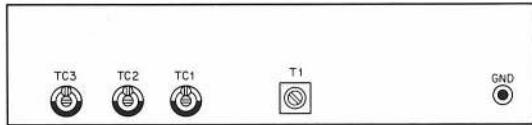
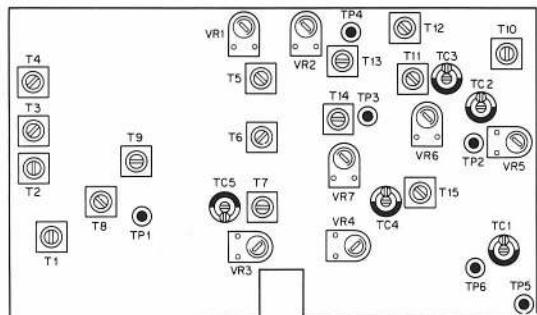
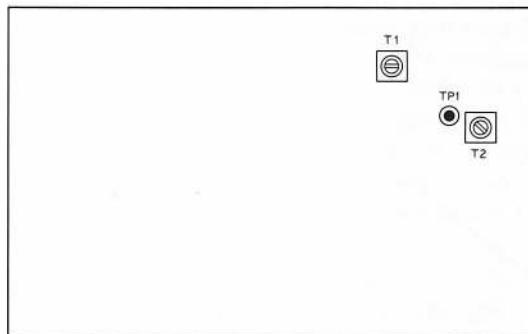

Fig. 21 CAR unit
Fig. 24 IF unit
Fig. 25 RF unit
- 1) Connect RF VTVM to TP5 in IF unit (X48-1150-00) and adjust oscillation coil T1 in CAR-1 unit (X50-1310-00) until the meter reads 50mV (refer to Fig. 21). (refer to Fig. 24 IF unit)
- 2) Adjust T1 to T7 in IF unit (X48-1150-00) and T2 in RF unit (X44-1150-00) until S meter reads maximum value (refer to Fig. 24 and Fig. 25).
- 2) Turn the RF GAIN knob fully counterclockwise and adjust VR3 and TC5 in IF unit (X48-1150-00) alternately until the output becomes minimum (refer to **Fig. 24**).
- 1) After receiving marker signal and turning ON NB switch, adjust T8 and T9 until the terminal voltage at TP1 on IF unit (X48-1150-00) becomes minimum (refer to **Fig. 24**).
- 1) After adjusting each section until sensitivity becomes maximum, adjust VR1 in IF unit (X48-1150-00) under no signal condition, thus making zero point adjustment of S meter (refer to **Fig. 24**).
- 1) Connect RF VTVM to TP6 in IF unit (X48-1150-00) and adjust TC1 in IF unit for 0.1V (refer to Fig. 24).